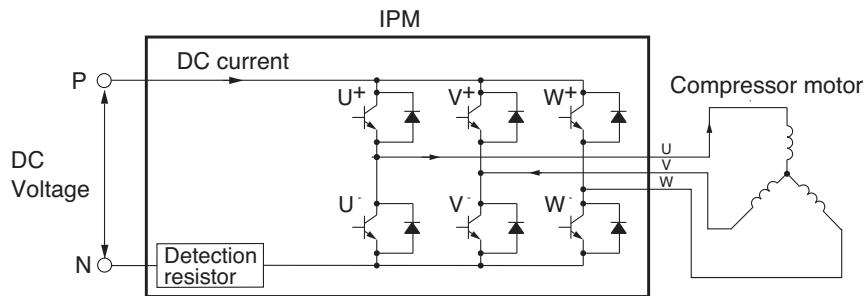

Fig. 6-6
- (1) Turns on the power module's U+ and V- transistors so the current flows to the motor windings as shown in Fig. 6-6.
- (2) Varies the turn-ON time of the U+ transistor according to the DC voltage level and the start is controlled so the start current is approx. 10A .